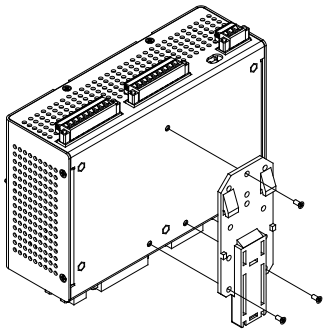

Figure 1: DIN Rail Mount
- 01 DIN rail mount (see Figure 1)